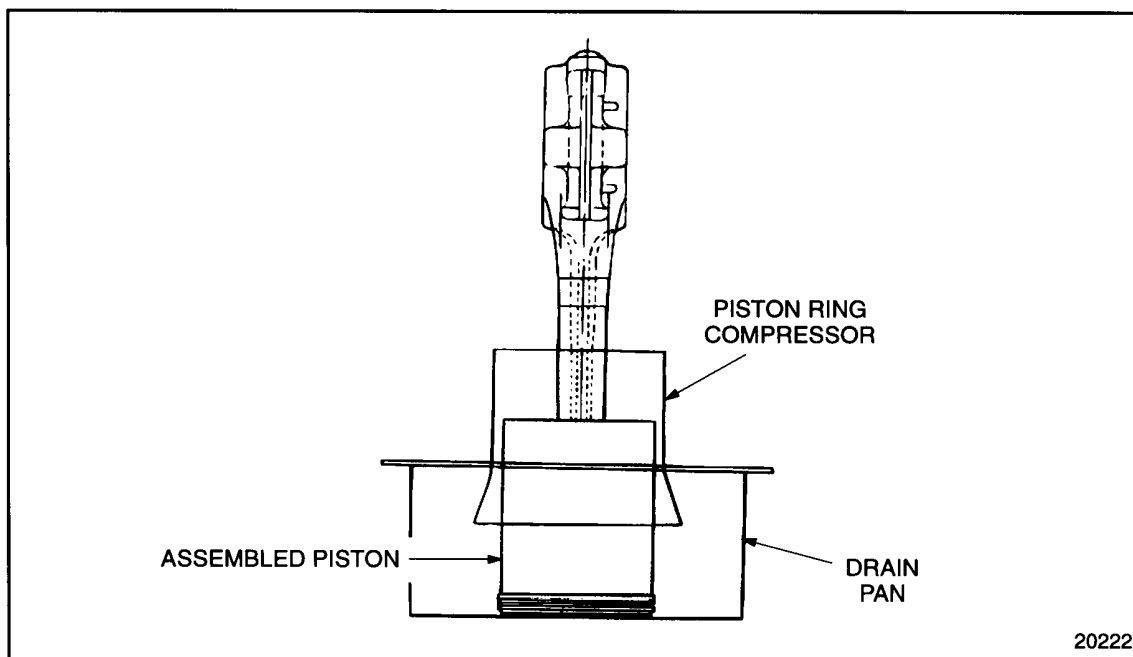

Figure 1-246 Installing Piston and Connecting Rod Assembly into Ring Compressor
5. Place the piston, dome down, in the bottom of the pan. Center the dome of the piston. See Figure 1-246.